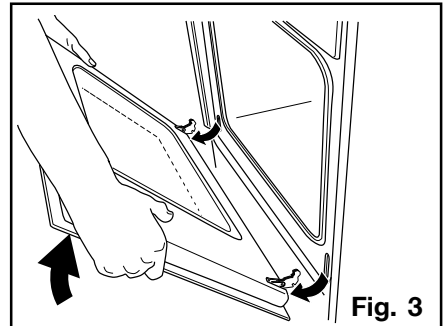

Fig. 3
4. Hold the door by the side edges and close it slowly but not COMPLETELY (Fig. 3).
5. Pull the door forward, removing it from its seat (Fig. 3).